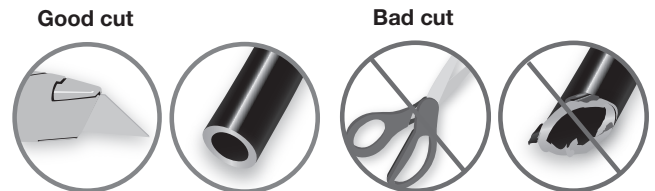

Fig. 14
2. If installing a single-path air line, choose a location for the tee fitting on the wheel well or rear bumper. Determine and cut adequate length of air line (C) (Fig. 14) to reach to the tee from left and right side air springs.